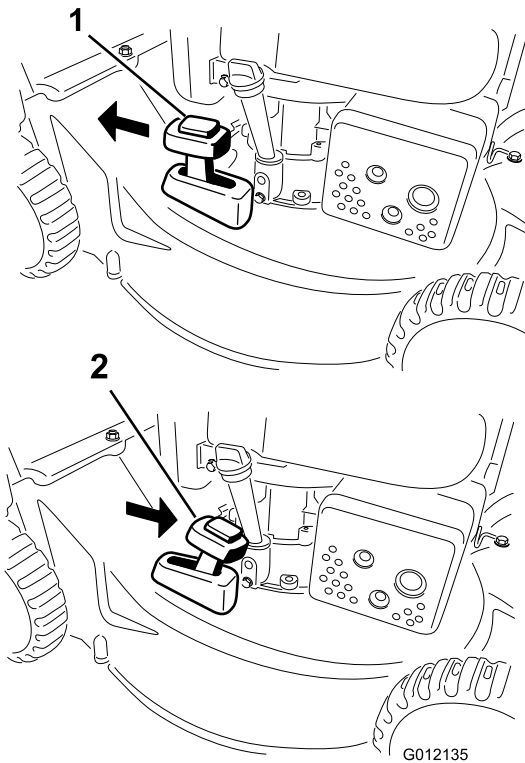

Figure 16
To recycle the clippings, move the bag-on-demand lever to the RECYCLING position (Figure 16).
2. Install the grass bag; refer to Installing the Grass Bag \(page 11\) and move the bag-on-demand lever to the BAGGING position as shown in Figure 16.
**Note:** If the grass bag is on the machine, remove it before rear-discharging the clippings; refer to Removing the Grass Bag \(page 12\). The bag-on-demand lever should be in the BAGGING position as shown in Figure 16.